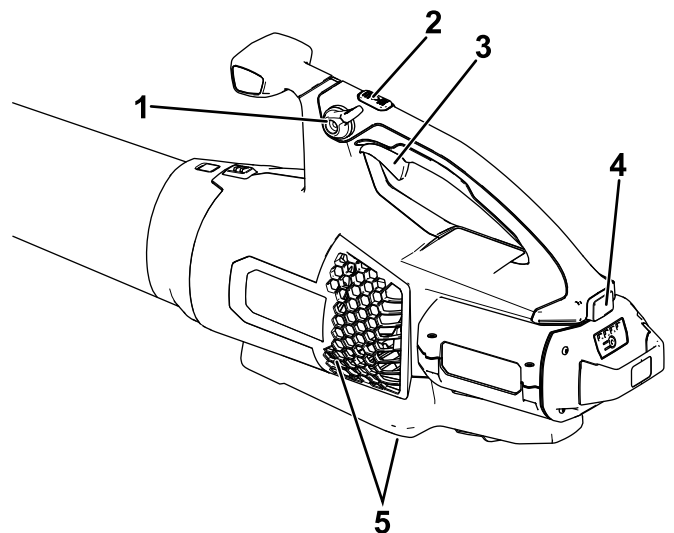

Figure 4
2. To start the blower, squeeze the variable-speed trigger (Figure 4).
**Note:** Engage the speed lock to keep the machine on without pressing the variable-speed trigger (Figure 4).
To achieve maximum performance (air speed), press and hold the turbo boost button for the desired amount of time (Figure 4).
To adjust the air speed as you blow, use the variable-speed trigger (Figure 4).
To maintain the current air speed, engage the speed lock (Figure 4).
To shut off the blower, disengage the speed lock (if in use) and release the variable-speed trigger (Figure 4).